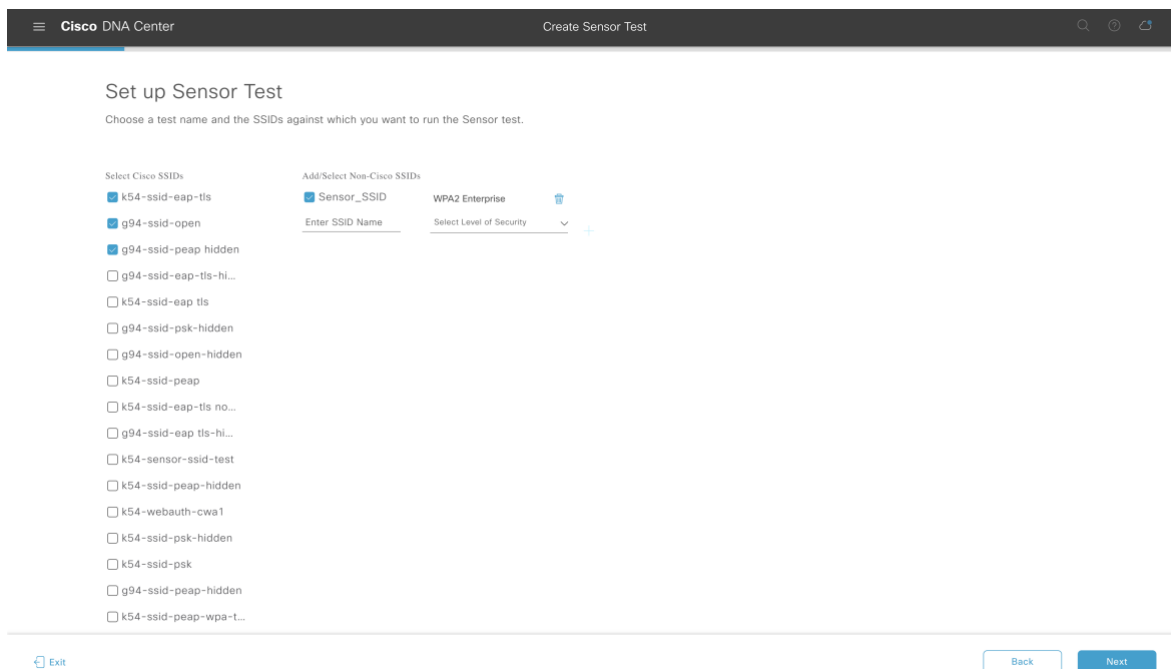

Figure 58.
- b. Choose Cisco SSIDs from the prepopulated list on the left or add third-party SSIDs and select the corresponding level of security (Figure 58).